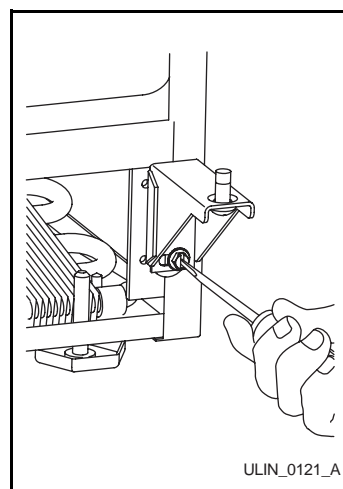

Figure 39
6. Remove bottom hinge from cabinet (two screws) (**Figure 39**).